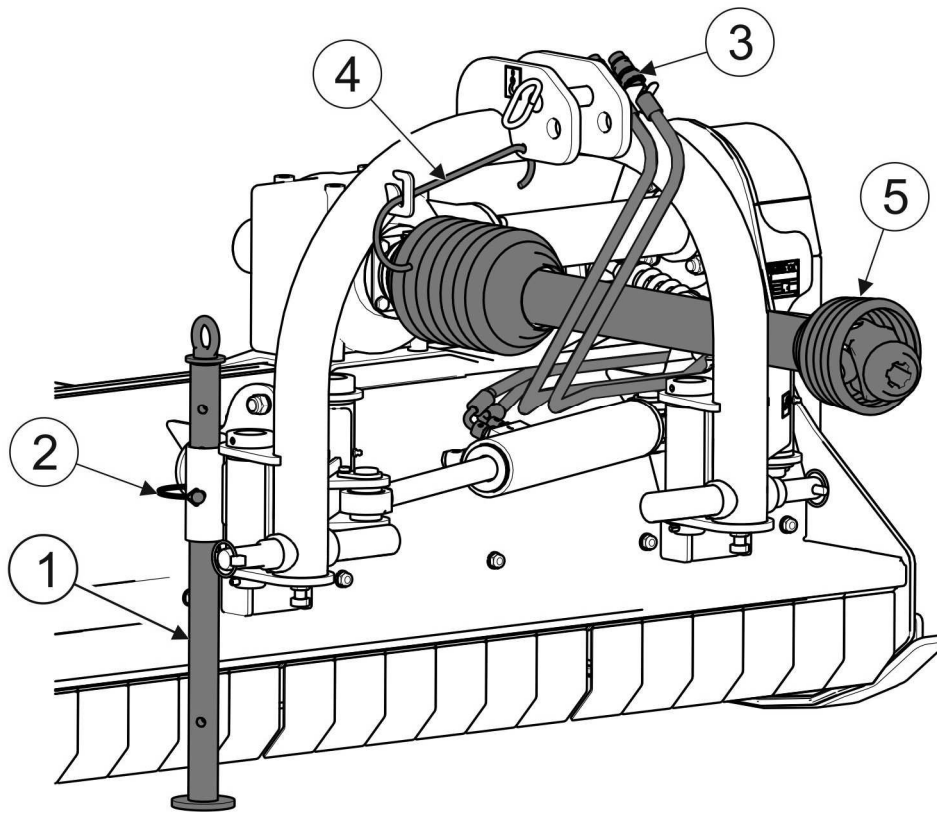

FIG. 4.10 **Disconnecting mower from tractor**
In order to disconnect the mower from the tractor (FIG. 4.10) proceed as follows:
- take out securing pin (2), lower parking stand (1) and lock it again with securing pin (2);
- disconnect hydraulic conduit plugs (3) from tractor and secure with stoppers and place in special brackets on mower frame,
- disconnect PTO shaft (5) from tractor PTO drive and place on support (4),
After disconnecting from tractor, mower should be supported on parking stand (1) (FIGURE 4.10) and on tracking shaft.